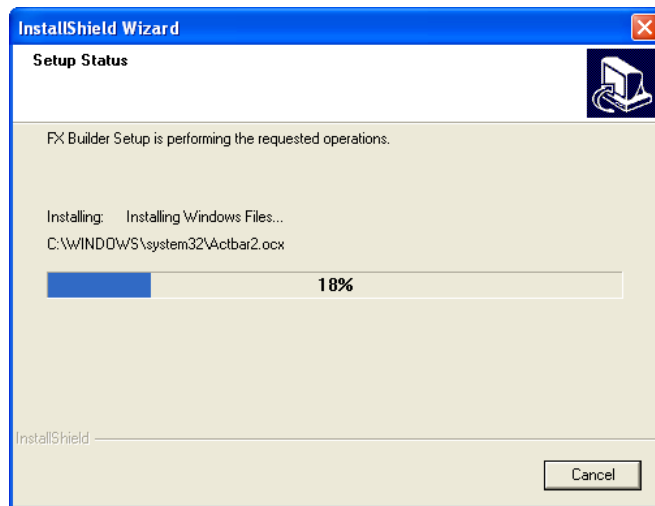
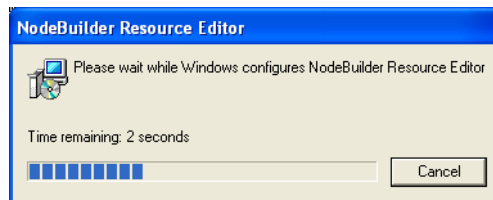
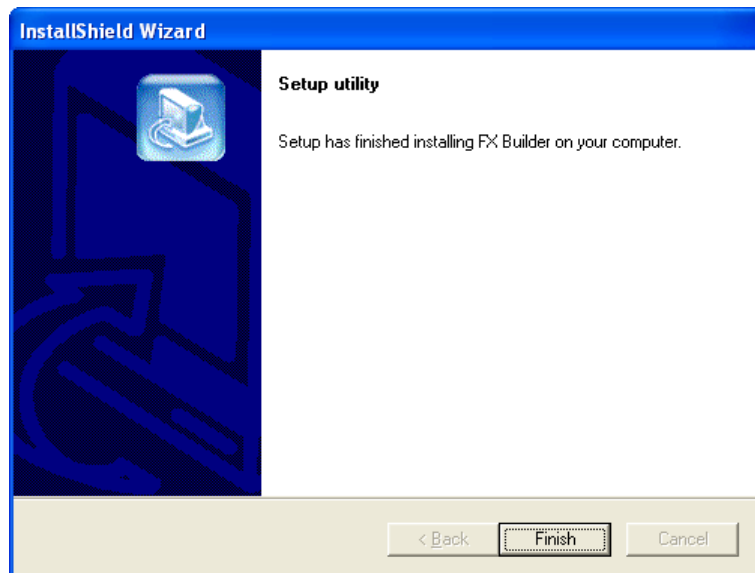

Figure 9: Setup Status
Figure 10: NodeBuilder Resource Editor
Figure 11: Installation Complete
7. Click Next. The Setup Status and NodeBuilder Resource Editor windows appear (Figure 9 and Figure 10). When FX Builder installation finishes, the Installation Complete window appears (Figure 11).